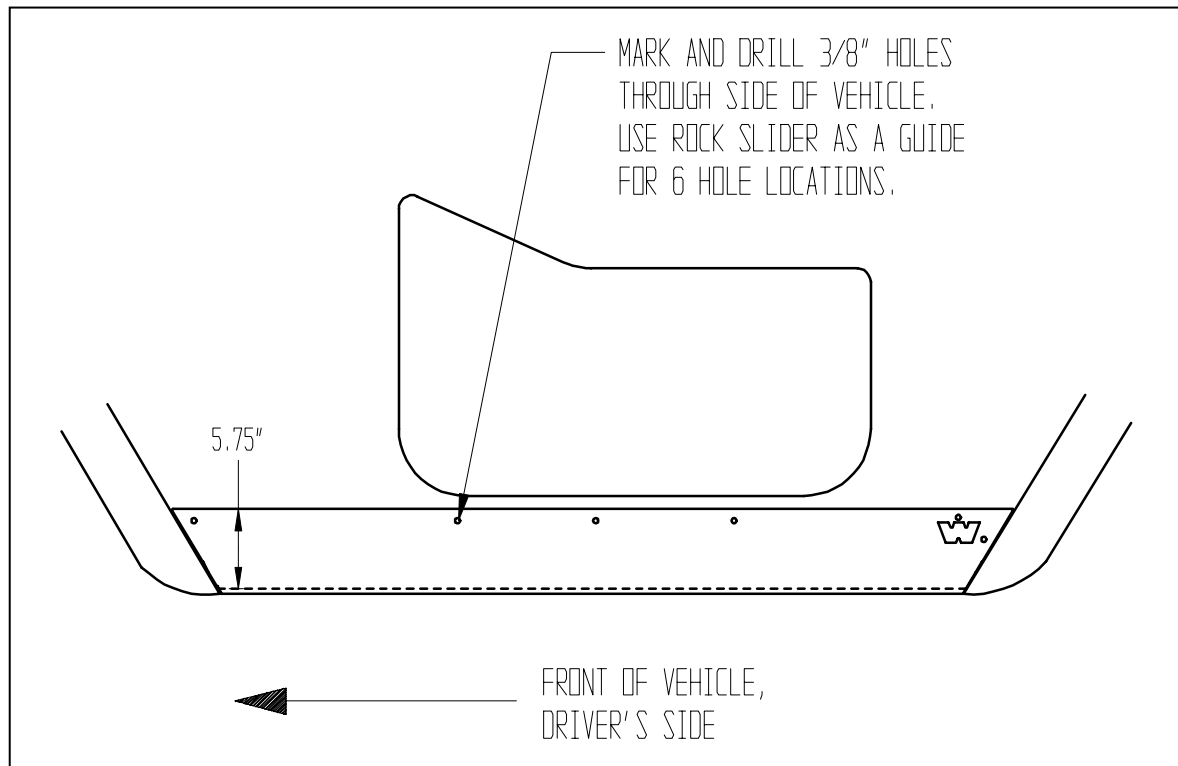

Figure 1, Driver's Side View
- Carefully place one of the rock sliders on the side of the vehicle. Position the rock slider vertically by using the marks from the previous step. Align front to back using the fender flares. **Note:** Because of the wide variety of fender flares, the rock sliders may have a slight gap to the flares. The vertical position is also related to the flares. If the flares do not allow the rock slider to be positioned to the 5.75" vertical measurement, loosen the flares and move them slightly, to allow the rock slider to move down to the 5.75" measurement. **See Figure 1.**